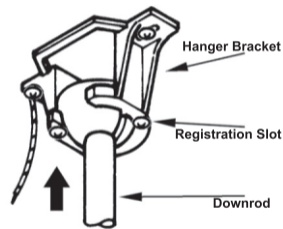

Fig.10
Step 8. Lift the Motor Assembly and place the Hanger Ball into the Hanger Bracket. Rotate the Motor Assembly as needed until the check groove from the Hanger Ball rests firmly over the registration tab from the Hanger Bracket. Motor Assembly should not rotate if this is done correctly. (Fig. 10)